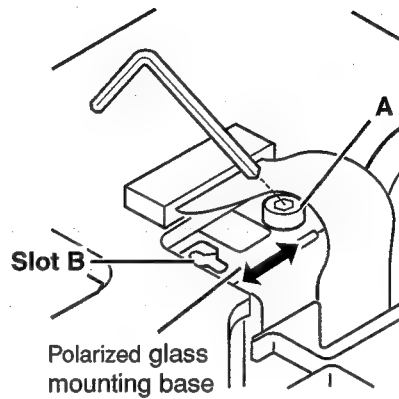

Fig.1-1
2. Loosen a screw **A** (Fig.1-1/1-2) on the polarized glass mounting base which you intend to adjust.
3. Adjust a slots **B** as shown in Fig.1-1 to obtain the darkest brightness on the screen by turning a slot screwdriver.